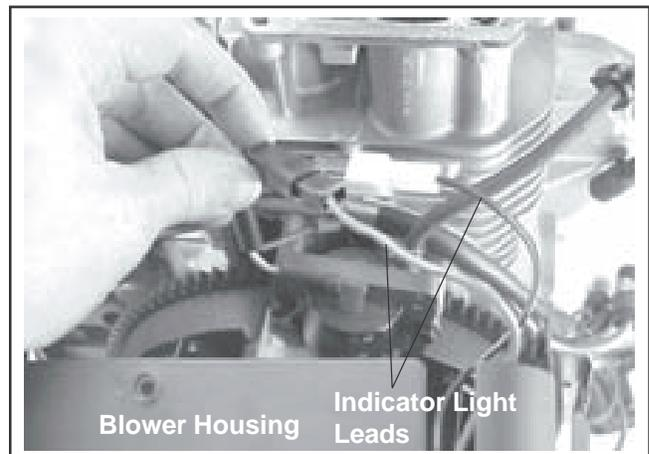

Figure 11-39. Connecting Oil Sentry™ Indicator Light Leads.
1. Connect the Oil Sentry™ Indictor Light leads (if used). See Figure 11-39.